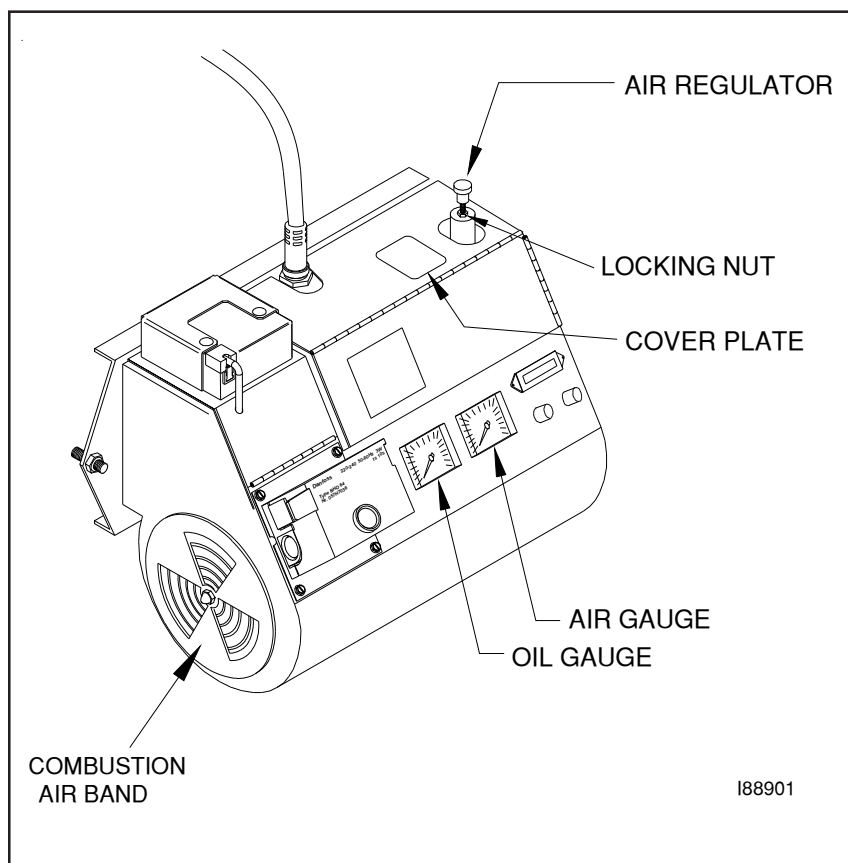

Figure 6A - Component Detail of the CB-500 Burner
4. Refer to Figure 6A to locate the air regulator.
- Refer to Figure 6A to locate the combustion air band.
- Refer to Figure 6A to identify the combustion air band location on the burner.